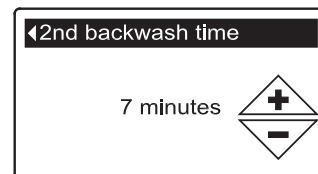

FIG. 70
- 8c. **Second backwash time:** Press the UP (▲) or DOWN (▼) buttons to change the second backwash time. Hold the button down to rapidly advance. The time can be set from 1 to 30 minutes (See Figure 70).